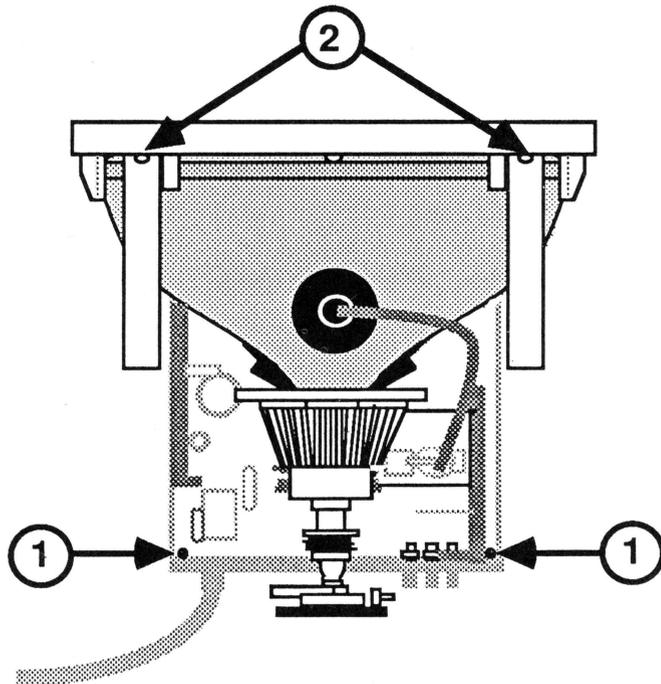

FIGURE 17
- Remove the two screws* (Figure 17, #1) that secure the back panel to the main logic PCB.
16. For Rev. A only, remove the two screws* holding the two upper case support brackets* to the bezel (Figure 17, #2).